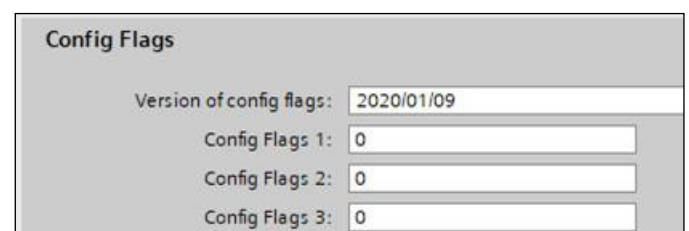

Fig. 119: Config Flags – linear profile
• **Ignoring offsets configured in the project:** You can use the “Config Flags 1” entry to set whether the sensor should accept or ignore the offsets transmitted by the controller when establishing the connection. You can adjust this in the module parameters of the sensor in the “Config Flags” section (Fig. 119). You can set the following values for bit 1 of the “Config Flags 1” entry: